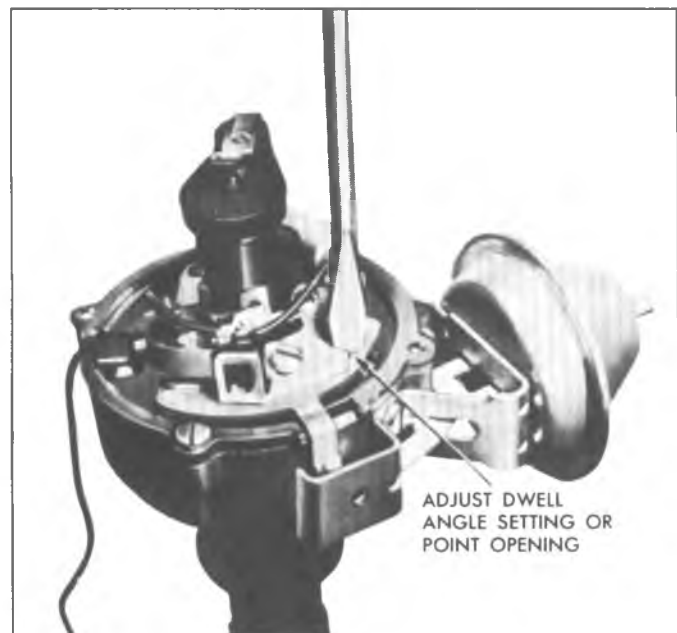

Fig. 17i—Setting Point Opening
4. Use a screw driver (fig. 17i) to move the point support to obtain .019" opening for new points and a .016" opening for used points.